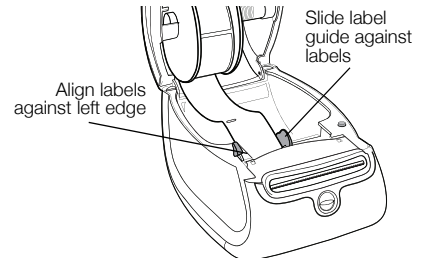

Figure 8
- The labels must be loaded with the left edge of the label inserted against the left edge of the label feed slot. See Figure 8.
- Align the left edge of the label with the left edge of the label feed slot and insert the label into the slot. See Figure 8.
- Slide the label guide to the left until the label guide aligns with the right edge of the label. See Figure 8. Make sure that the label guide does not pinch the label.